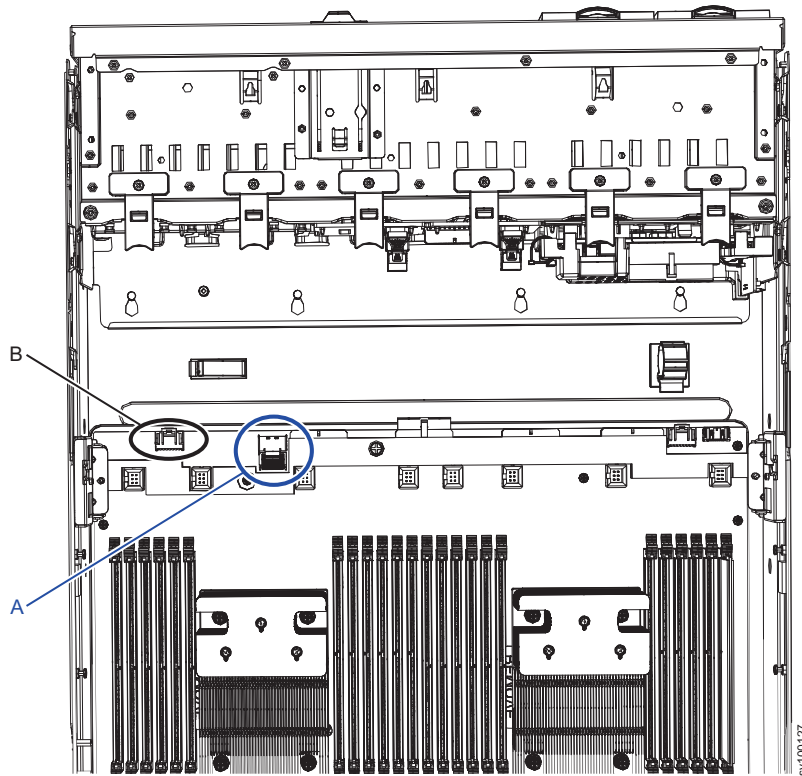

Figure 268. Cable connectors on the 2145-SV1 main board for the operator-information panel cables
3. Connect each cable to the appropriate connector on the main board, as shown in Figure 268 on page 323.